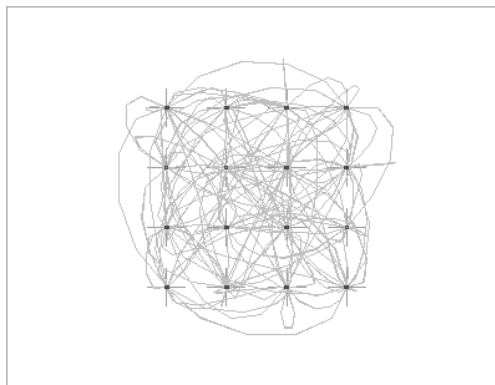
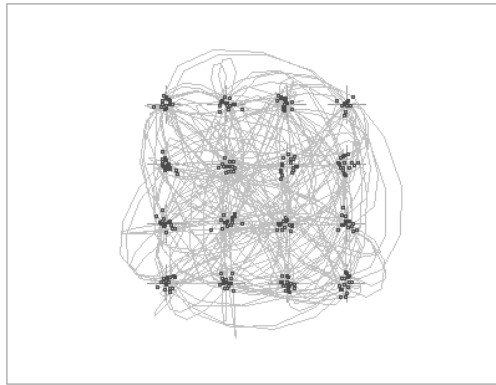

Figure 60: Agilent 89441A VSA demodulation of QAM 16.
Figure 66: Agilent 89441A VSA demodulation of QAM 16 with -25 dB of AWGN.
Figure 60 shows an example demodulation of QAM 16 for an SG394 with the following setup:
Figure 66 shows an example demodulation of QAM 16 constellation which has been degraded by AWGN. The SG394 had the following setup:
-25 dB of AWGN is enough noise to create an error vector magnitude (EVM) of about 5.6 %. Compare the sharp constellation points of Figure 60 to those of Figure 66. The noise degradation is quite visible in the figure.